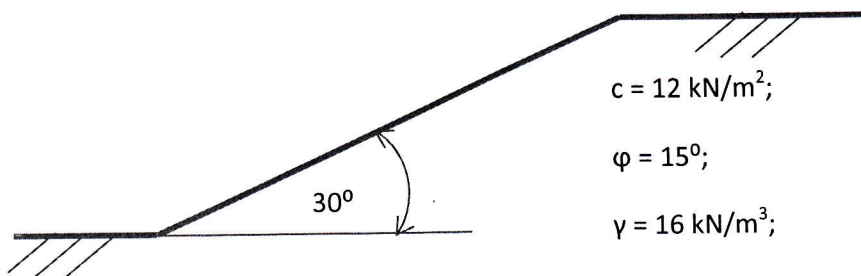

Figure 3
3. A finite slope (shown in Figure 3) makes an angle 30° with the horizontal. Using Taylor's stability number, calculate the following: